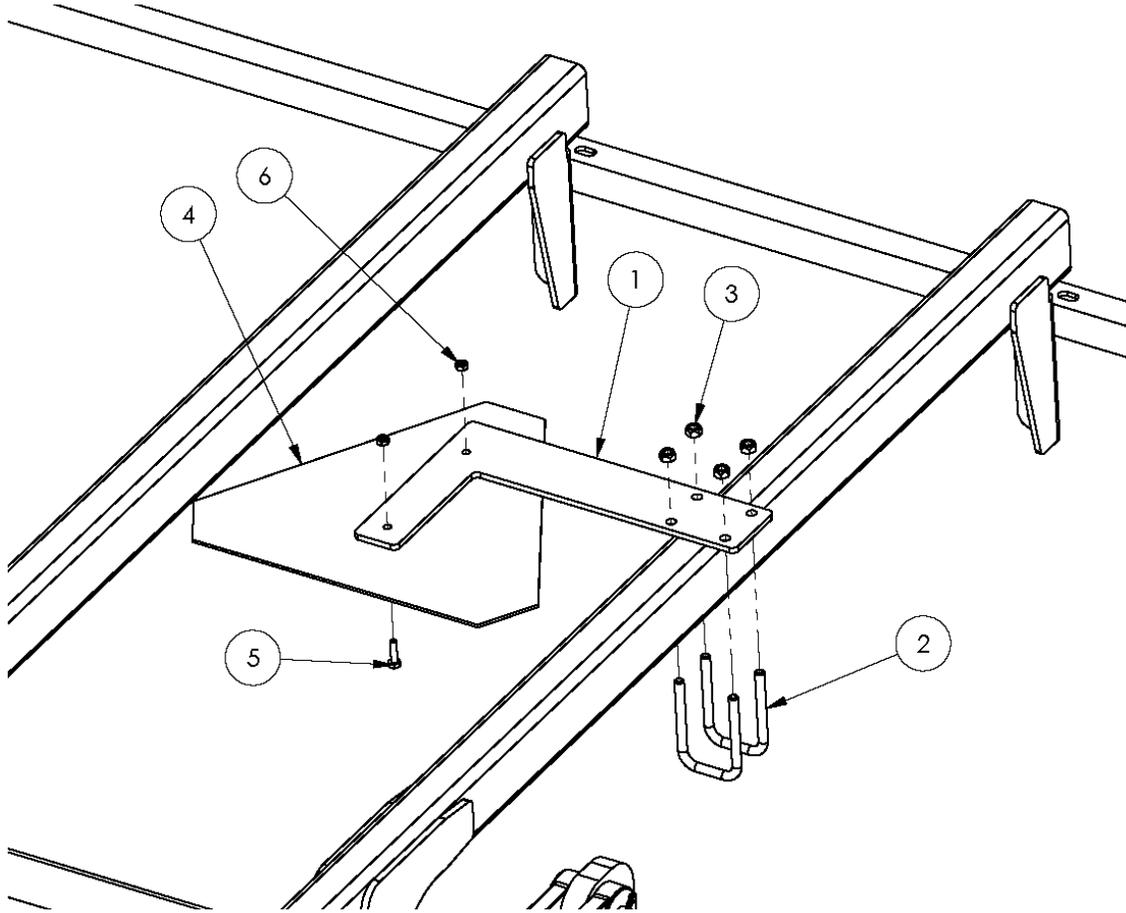

Figure 17
3. Attach the 14" cylinders between the Center Bar and Wing Frame, making sure the ports face towards the front of the unit. A longer offset pin is required on the 116 models, Refer to Figure 17. Note that the 116 through 130 models are not trussed.